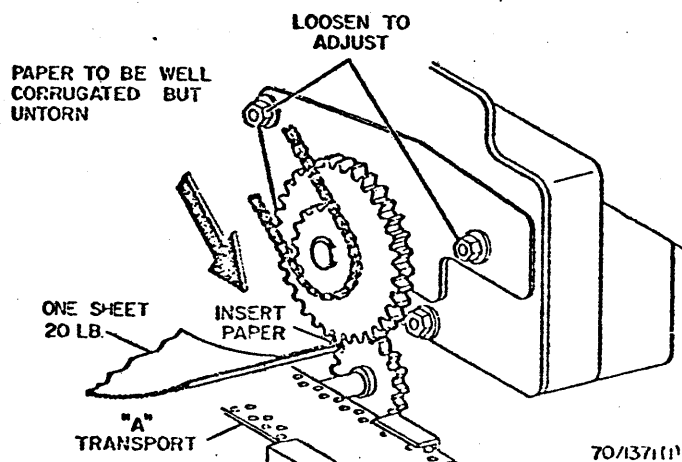

Fig. 3-97A. A Transport Drive Chain Adjustment
2. Loosen the two nuts indicated (Fig. 3-97A).